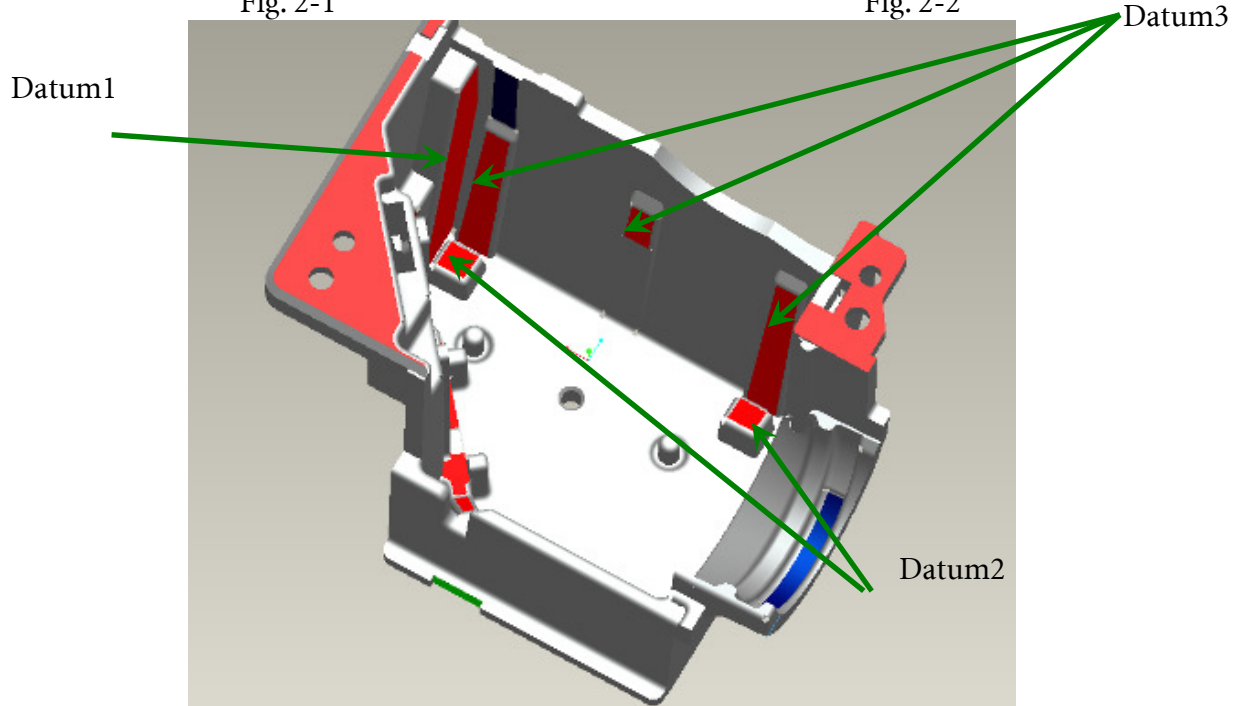

Fig. 2-3
- iii. Assemble CM to Sub HSG and to make CM contact Sub HSG datum Well (Fig. 2-3).